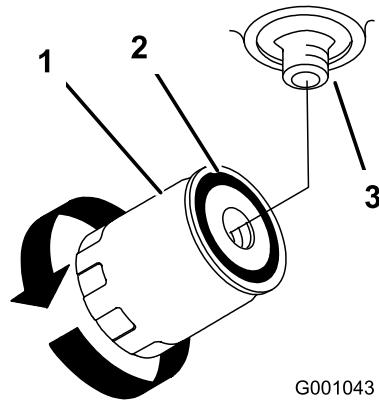

Figure 76
4. Remove the old filter and wipe the filter adapter gasket surface clean (Figure 76).
6. Install replacement hydraulic filter onto the filter adapter. Turn the oil filter clockwise until the rubber gasket contacts the filter adapter, then tighten the filter an additional 1/2 turn (Figure 76).